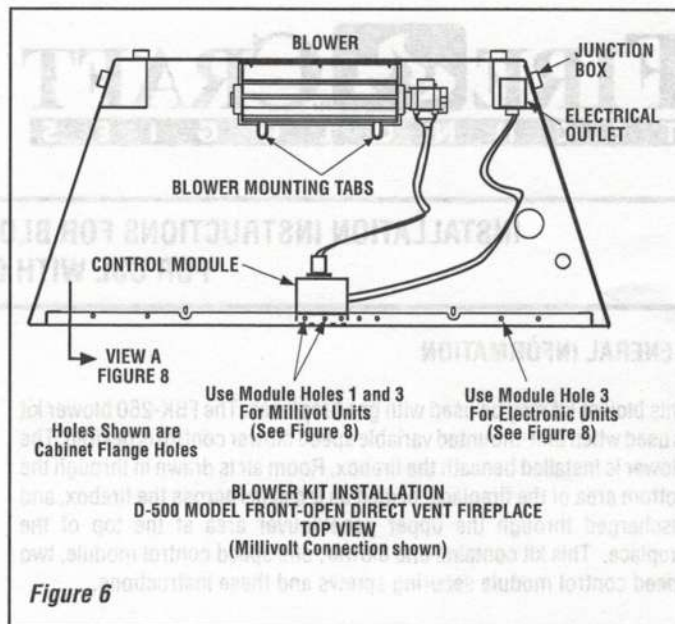

Figure 6
- e - see **Figure 6** for D-500 series units;